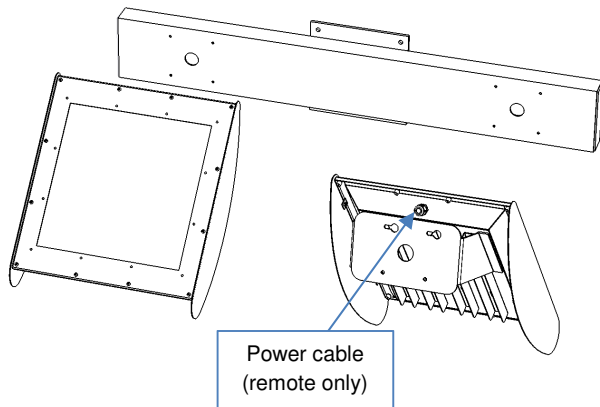

Figure 1
Figure 1 for integral with dimming
Step 8: Connect wires from the driver to the control panel using Waterproof Marrette (Supplied by Others) inside the driver box. Refer to the wiring diagram (**Figure 1**) for dimming.